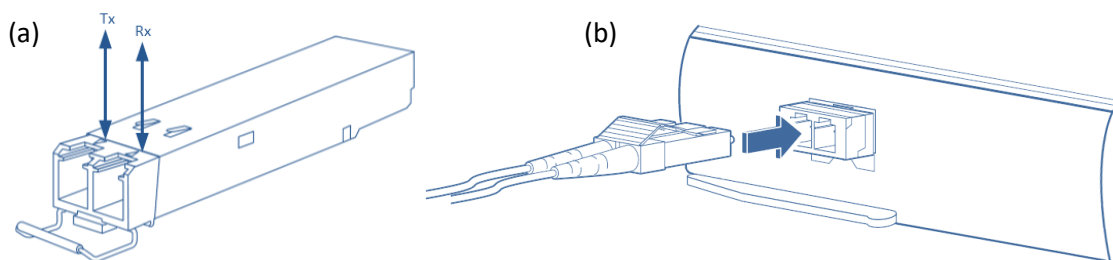

Figure 7 – Interface connecting to the SFP+ Module
- d) On Fiber channel 0 both the TX and RX fiber cables must be connected. On channels 1 through 3 only one fiber cable should be connected. This cable is connected between TX output (Marked with TX or Arrow outwards the SFP+) on the KY-CL2F-D and RX input (Marked with RX or Arrow inwards the SFP+) on the Komodo CLHS compatible Frame Grabber, as shown in Figure 7 (a).
3. Insert the fiber cable into the module, as shown in Figure 7 (b).